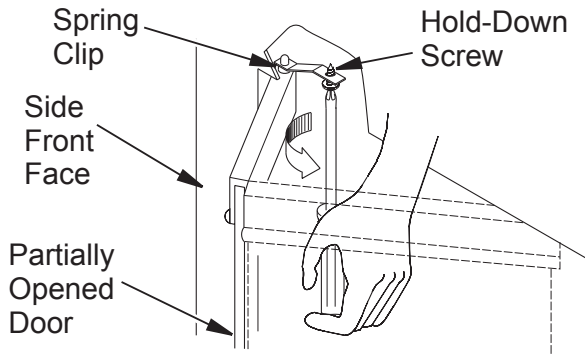

Figure 34 - Adjusting Glass Doors
7. To adjust doors, slide them partially open. Using a screwdriver, loosen hold-down screws in the spring clip (see **Figure 34, Page 16**) and pivot plate.